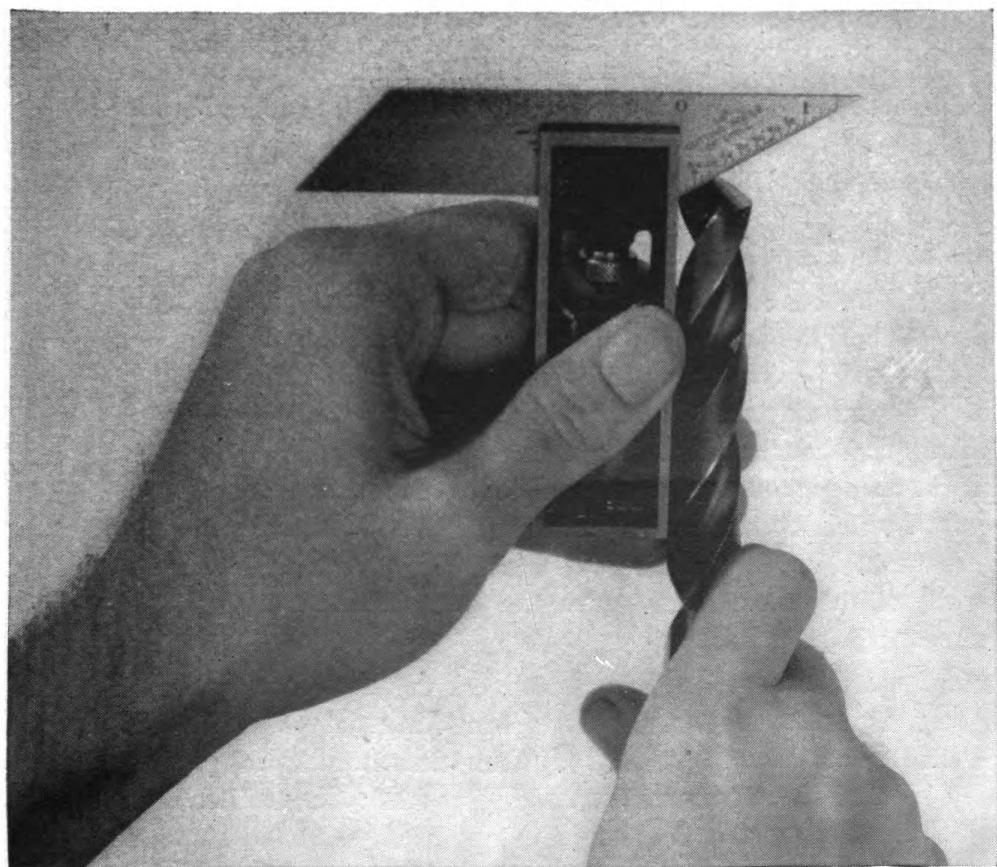

Figure 63. Drill-grinding gauge in use.
h. DRILL-GRINDING GAUGE. (1) The drill-grinding gauge is shaped like the letter "T." The ends of the cross-bar of the "T" are cut off at an angle of 59°. This is the correct angle for the cutting lips of a drill. The edge of the gauge is marked off in $\frac{1}{64}$ -inch divisions to enable the mechanic to measure the length of the lips as well as the angle. For special work, gauges may be cut at angles of 40 to 70°, but 59° is used for all general work.
(2) To check the angle of the cutting lip of a drill after grinding, the gauge is held against the drill as shown in figure 63. The drill is then turned around and the other lip checked. If the lips do not have the correct angle and the same length, the drill must be reground.